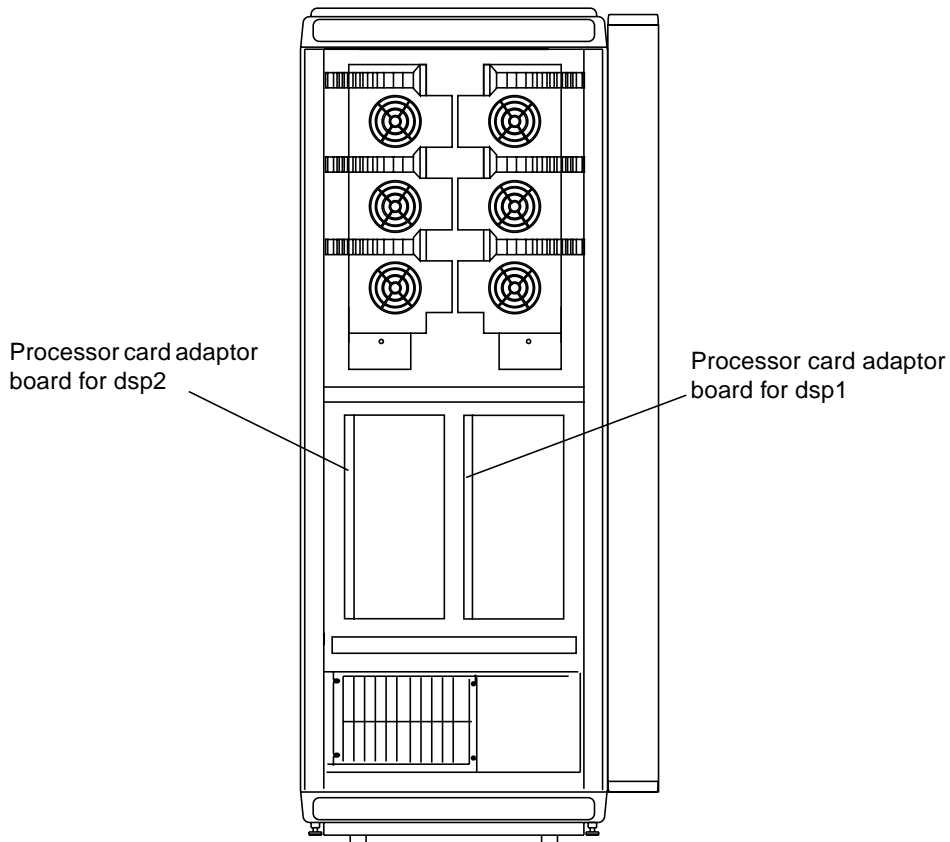

FIGURE 6-1 Inside Rear of A7000
2. **Inside the rear of the A7000, locate the processor card adaptor boards for dsp1 and dsp2. Each processor card adaptor board is in the first slot of the dsp's 14-slot chassis. See FIGURE 6-1.**